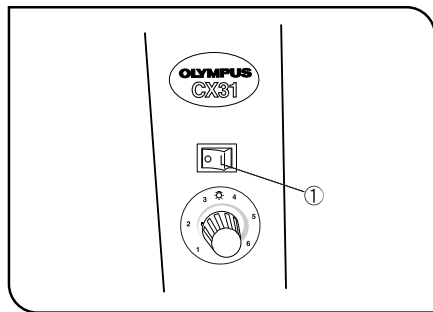

Fig. 4
## 2 Connecting the Power Cord (Figs. 4 - 6)
▲Make sure that the main switch ① is set to "O" (OFF) before connecting the power cord. (Fig. 4)